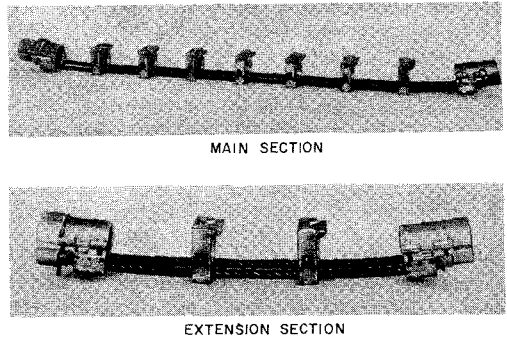

Fig. 4—C CONECS Cable Feeder
2.06 The C CONECS cable feeder consists of two assemblies—an 8-foot 2-inch main section (which incorporates a lubricator), and a 3-foot 10-inch extension. The assemblies are a series of split rings joined together with two wire ropes. When the split rings are closed to form a cable guide, the minimum internal diameter is 3.94 inches. This will allow the C CONECS cable feeder to accommodate the largest cables. The main section weighs approximately 75 pounds and the extension section weighs approximately 35 pounds (Fig. 4). The C CONECS cable feeder is marked "Bell System C."